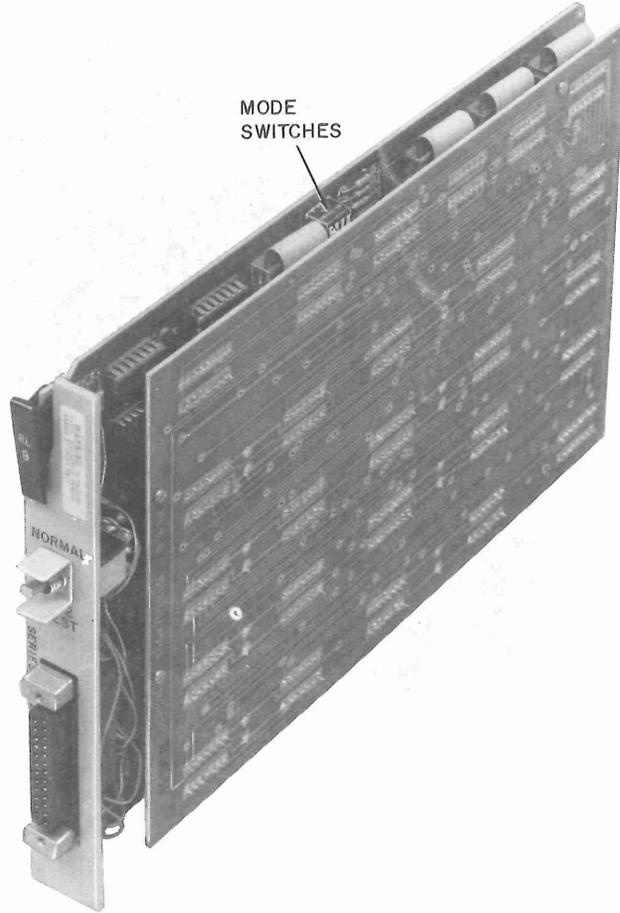

Fig. 14—RL9 CP
2.13 RL9 CP (Fig. 14): The RL9 CP has two printed wiring boards arranged in a mother-daughter type circuit pack. The PWBs are joined with four flat connector-ended cables which attach near the top of each board.